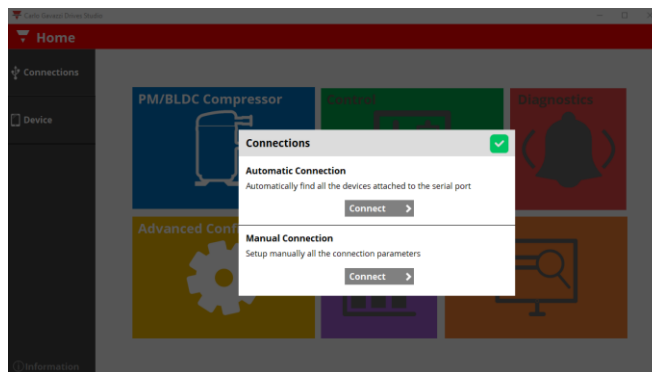

Figure 6: Manual or automatic connection page
- b) *Manual connection* – the user must enter the relevant communication parameters to communicate with the drive as shown in figure 6